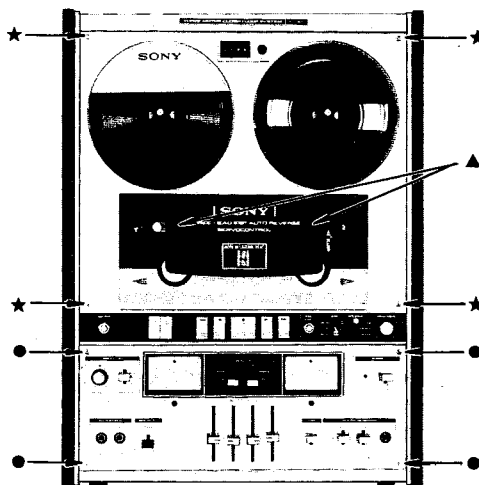

Fig. 4. Screws for disassemble
- (1) Remove the four screws marked ★ in Fig. 4 .
- (2) Lift the head cover and remove the screws marked ▲ under the both side of it.
- (3) The reel panel will come free of the set with the head cover and the tape cleaner.
- (1) Remove the four screws marked ● in Fig. 4.
- (2) Pull off all of the knobs.
- (3) The amplifier panel will come free of the set.